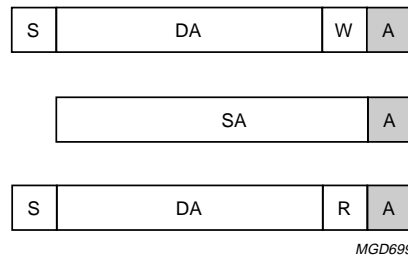

Fig.44 Address slave and write to IICTFR.
1. Address slave, write to IICTFR (see Fig.44):